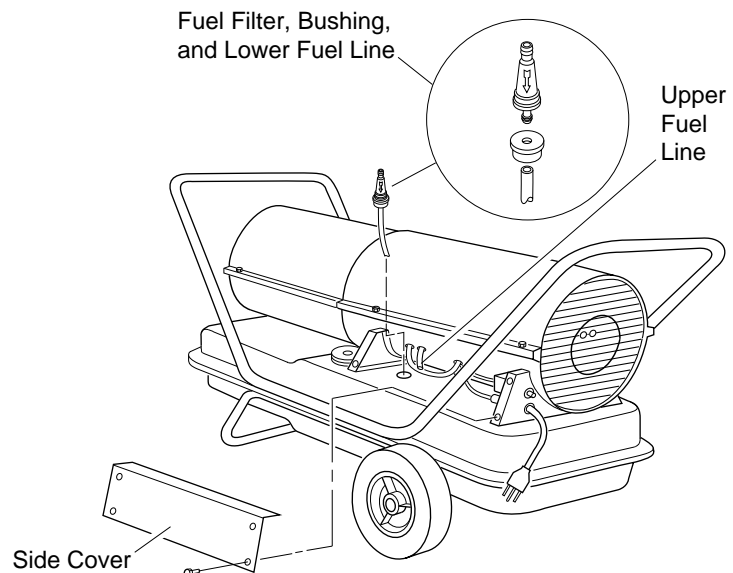

Figure 16 - Fuel Filter Removal, 100/150 Models
4. Carefully pry bushing, fuel filter, and lower fuel line (100/150 models only) out of fuel tank (see Figure 16).